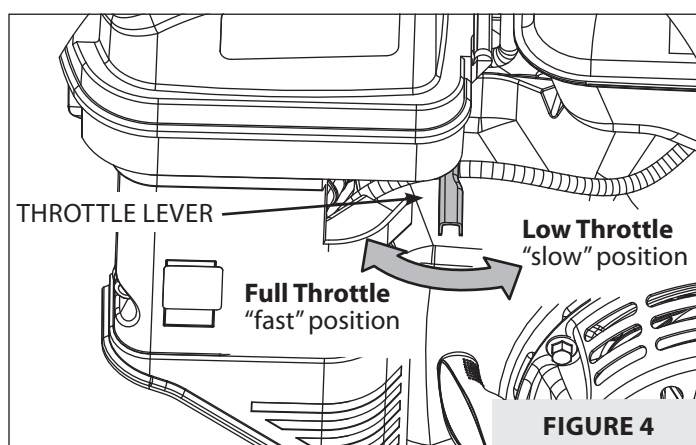

FIGURE 4
5. Move throttle lever 1/2 way between the **FULL** and **LOW THROTTLE** positions. (This is not necessary on models with throttle fixed at full throttle position.) **SEE FIGURE 4.**
12. Move throttle lever to desired speed. *(This is not necessary on models with throttle fixed at full throttle position.)* **SEE FIGURE 4.**
1. Move the throttle lever to the **LOW THROTTLE** position and allow the engine to run at low speeds for 1-2 minutes. *(This is not necessary on models with throttle fixed at full throttle position.)* **SEE FIGURE 4.**